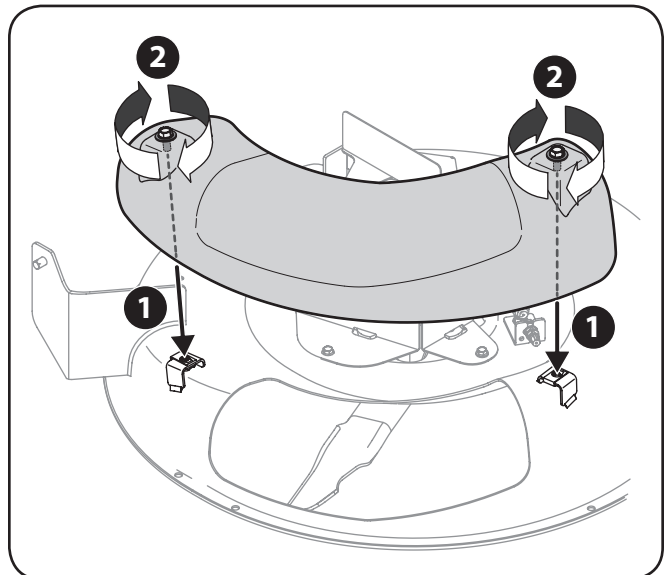

Figure 5-2
1. Position the mulch plug into the deck discharge opening on the deck and secure it in place by tightening the hex screws. See Figure 5-2.